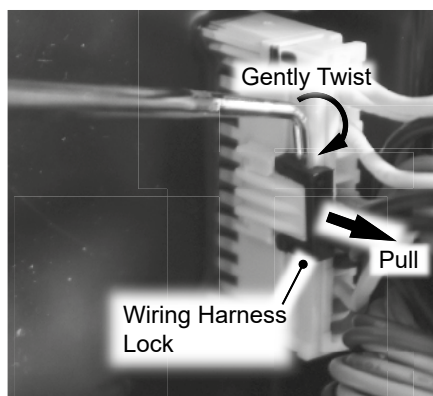

Figure 7 - Black harness lock removal
- 18 On connection point I, use an O-ring pick to apply pressure to the point shown in Figure 7 while pulling the harness from the board. Remove "keeper" and place aside in a safe place for reinstallation.